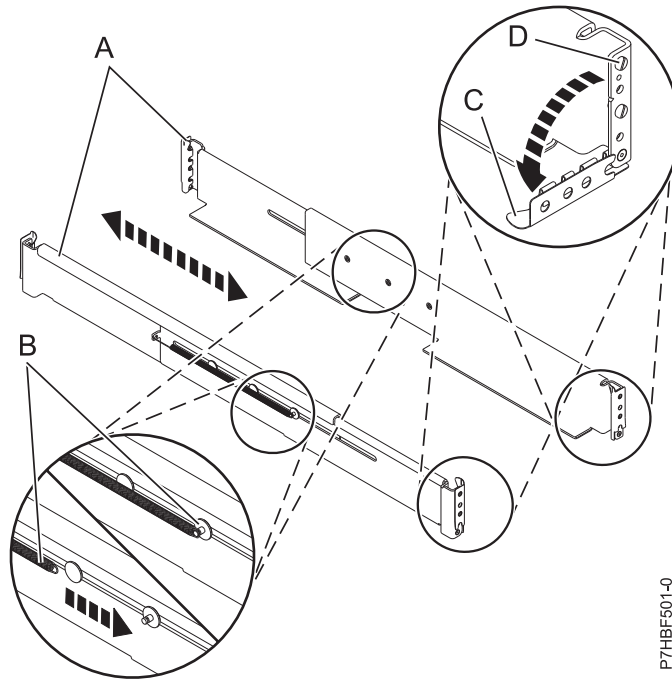

Figure 5. Installing the rails
3. Rotate down the front and back clamps (C) on the left and right rails as shown in Figure 5 on page 9.
4. On each rail, remove the tape that is holding the spring **(B)** to the rail. Hook the end of the spring around the circular standoff on the rail as shown in Figure 5.